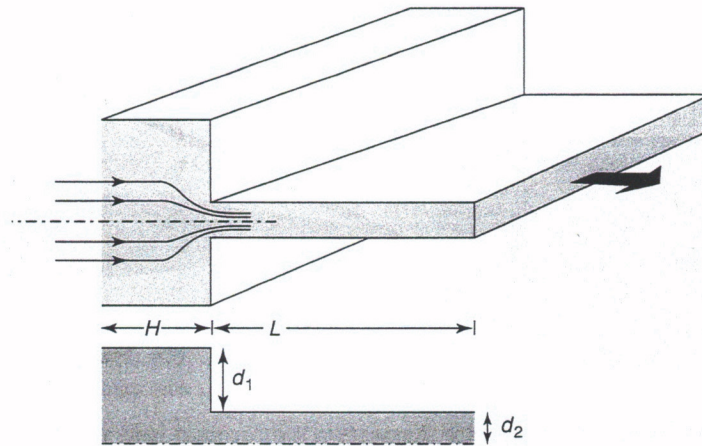

Figure 10.15
4. A flow domain for the analysis of the steady flow through a two-dimensional contraction is shown in Figure 10.15. The flow rate is constant, the fluid is incompressible, and the fluid exits into air. What are the boundary conditions for this flow?